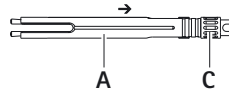

Fig. 2
- Pull back outer sleeve **A** as far as possible in the direction of fixing screw **C**, see Fig. 2.